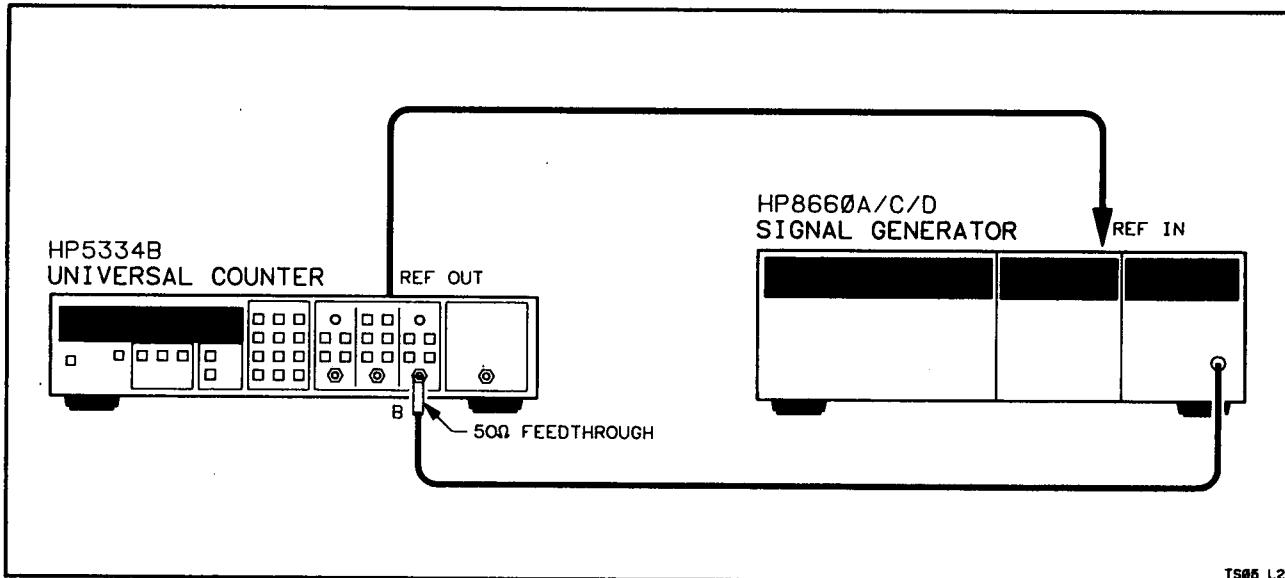

Figure 4-5. Channel B Frequency and Sensitivity Setup,
- Connect the signal generator to the HP 5334B Input B using a 50Ω feedthrough connector as shown in *Figure 4-5*.